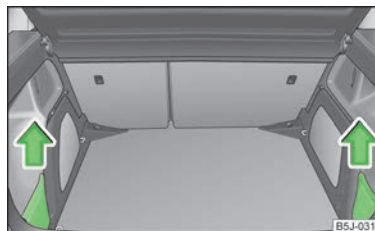

Fig. 74
- Grasp the top part of the cover and carefully remove it in the direction of the arrow » Fig. 74.